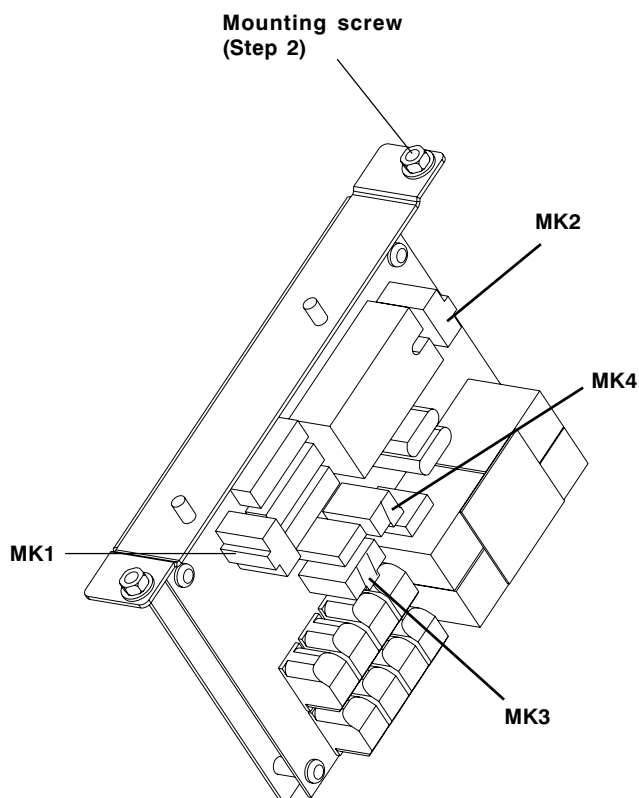

Figure 6-4. Soft Charge Card Assy
2. MK4 connector on soft charge card must be disconnected. Disengage soft charge card far enough to access MK4 (see Figure 6-4) in accordance with steps 1-3 in soft charge card disassembly procedure.